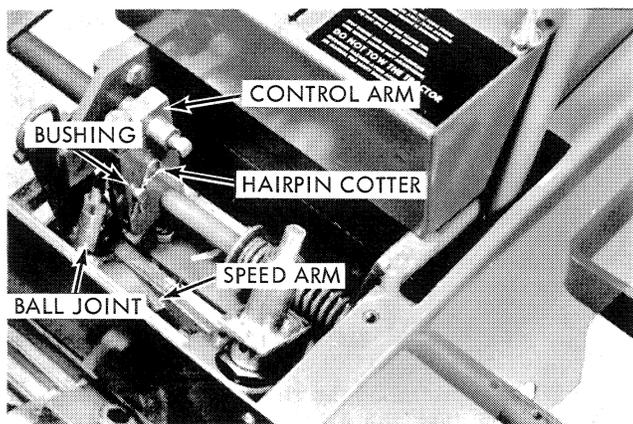

Figure 8
4. Remove the hairpin cotter from the ball joint rod and the bushing from the control arm. (Fig. 8). Slide the ball joint out of the control arm.
5. Locate the neutral position of the speed arm, Figure 8, by moving the arm up and down until you hear a "clicking" sound and feel the arm lock.